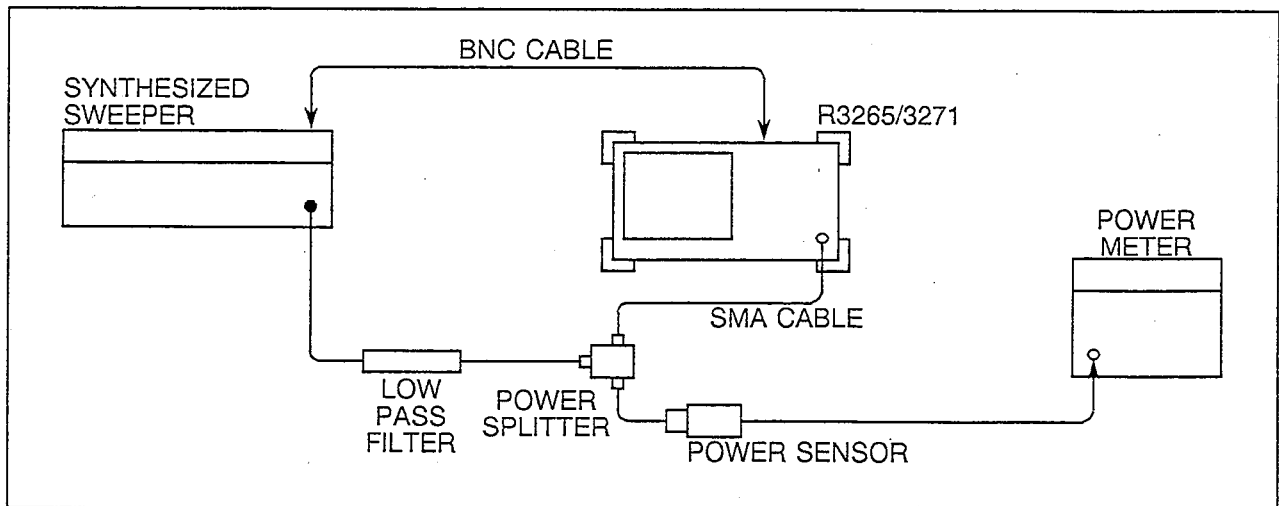

Figure 4-11 Second Harmonic Distortion Test Setup
(1) Zero and calibrate the power meter. Rotate the CAL FACTOR switch to the power sensor's 1.5 GHz calibration factor.
(2) Connect the equipment as shown in Figure 4-11.
(3) Press the INSTR PRESET key on the TR4515. Set the TR4515 controls as follows:
- (13) Connect the equipment as shown in Figure 4-11.
- (14) Rotate the CAL FACTOR switch to the power sensor's 1.9 GHz calibration factor.
- (15) Set the TR4515 key for a 0 dBm \pm 0.1 dB reading on the power meter.
(16) Set the R3265/3271 center frequency to 1.9 GHz and span to 1 kHz.